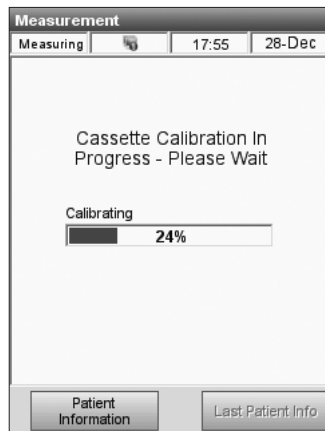

Fig. 5-15 Cassette Calibration
7. The system will now check the integrity of the cassette and then calibrate (Fig. 5-15). For more information about calibration, please refer to Chapter 4 “Calibration and Quality Control”.